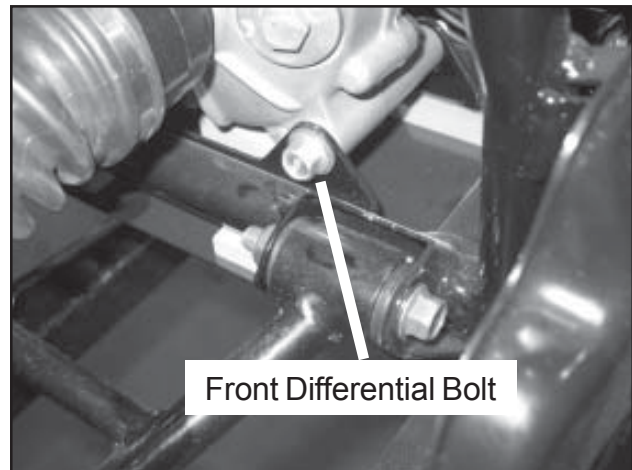
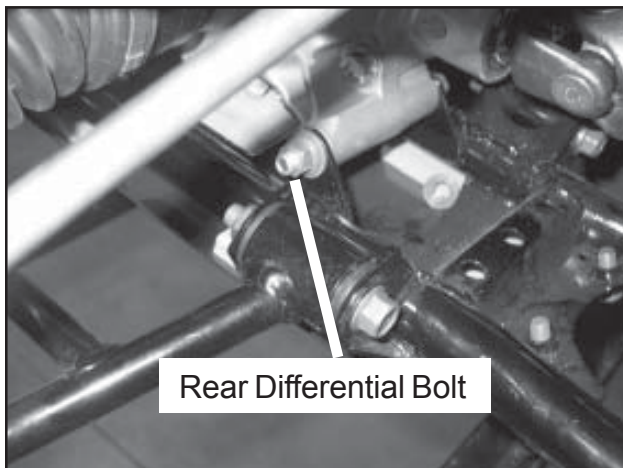

Figure 2 Front Differential Bolt
Figure 3 Rear Differential Bolt
2. Remove the front and rear bolts that hold the differential into position. The front bolt location is shown in **Figure 2** and the rear bolt location in shown in **Figure 3**.